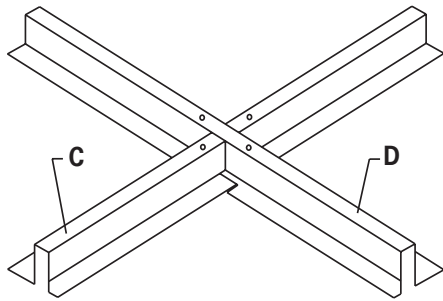

Fig. 1
Step 1. Place Lower Cross Leg (C) on the ground, line up notches and place Upper Cross Leg (D) over the Lower Cross Leg (C) as shown in Fig.1.